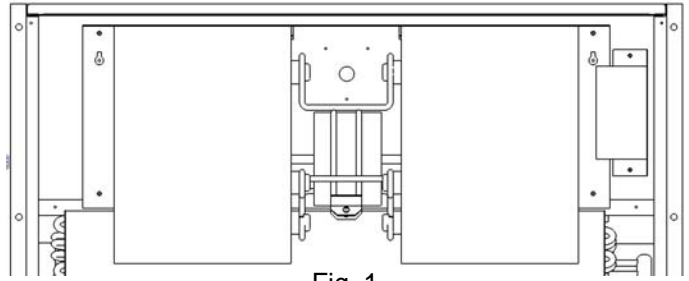

Fig. 1
2. Remove the Upper Front Panel. Remove the Electrical Box Cover and slightly unscrew the blower keyhole screws (Fig. 1). Unplug the blower from the blower plug and remove the two screws securing the blower motor module.